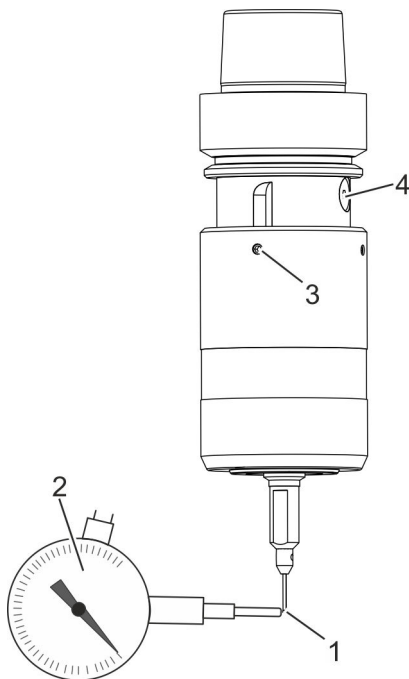

Fig. 66: Infrared workpiece sensor with dial gauge
4. ➤ Position the dial gauge so that the measuring ball (Fig. 66/1) can be measured.
5. ➤ Rotate the spindle by hand, while identifying the radial true running accuracy with the dial gauge (Fig. 66/2) on the measuring ball (Fig. 66/1).
6. ➤ If the deviation is more than this, readjust the four centring screws (Fig. 66/3) using an Allen key.